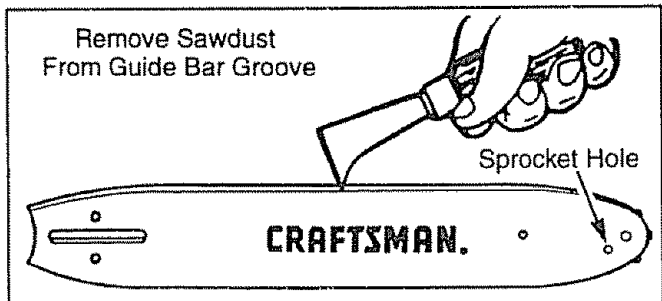

Figure 38
## GUIDE BAR MAINTENANCE (Fig. 38 & 39)
- Clean all saw dust and any other debris from the guide bar groove and guide bar lubrication hole. Figure 38.
- Lubricate guide bar sprocket hole after each use. Figure 38.